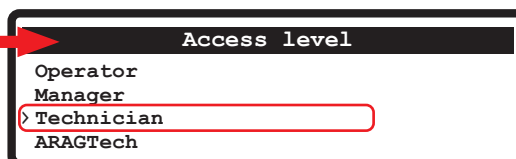

Fig. 41
- Select the user level for which you want to delete the PIN (symbol > Fig. 41) and press and hold the button ►.